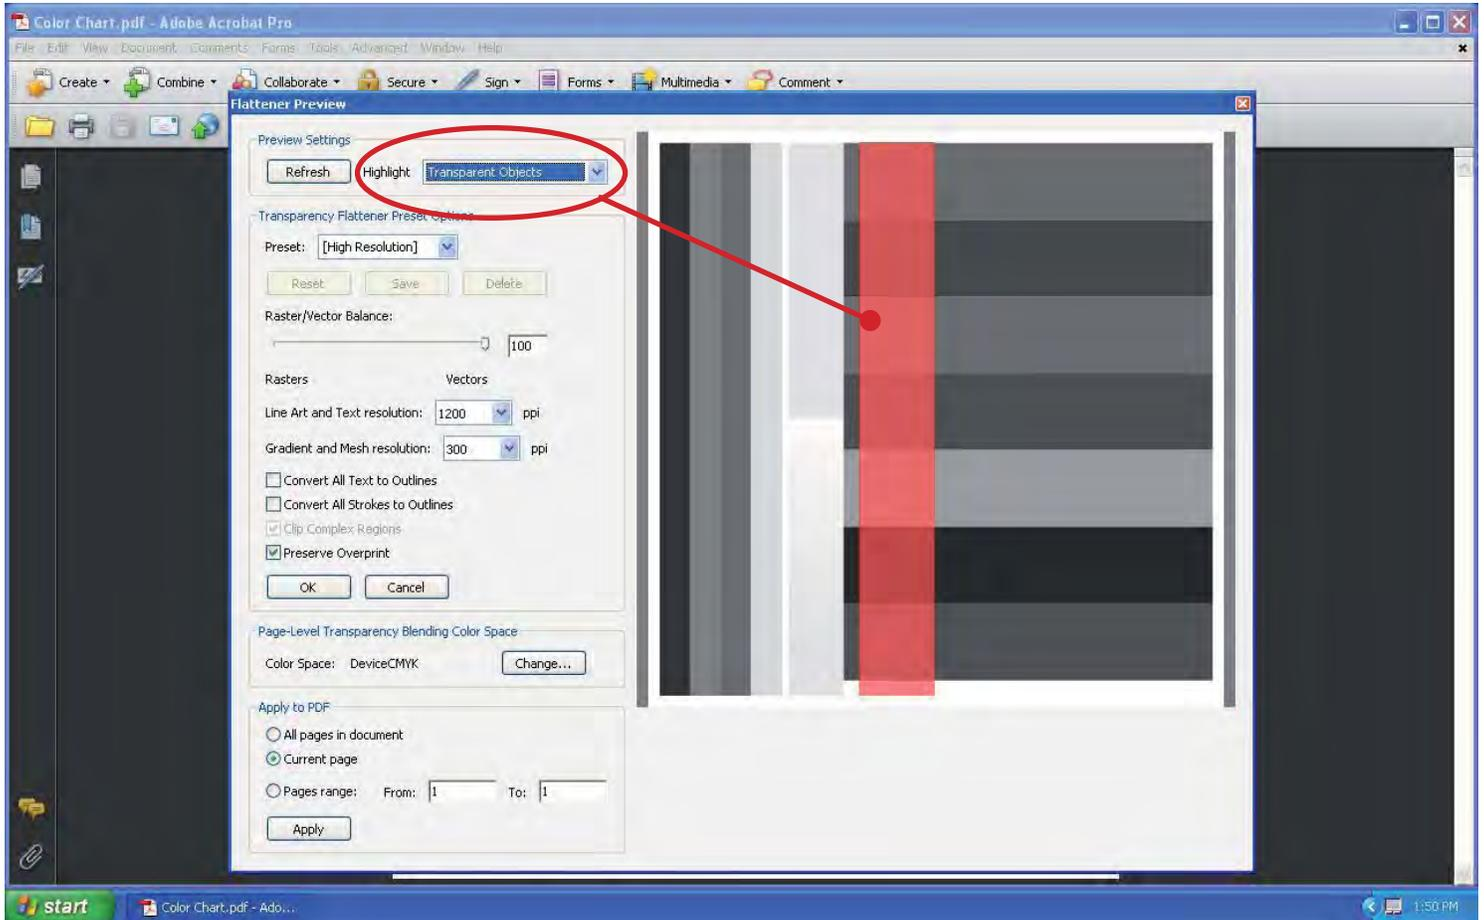

Fig. 10
3. Select Transparent Objects from the Highlight menu. (Fig 10).